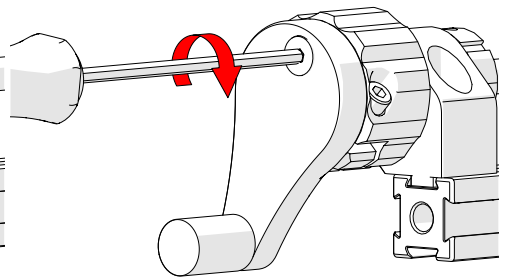

Fig. 134 - Tighten screw
2. Using the supplied 3 mm hex driver (Fig. 23), tighten the hexagonal screw (Fig. 134).